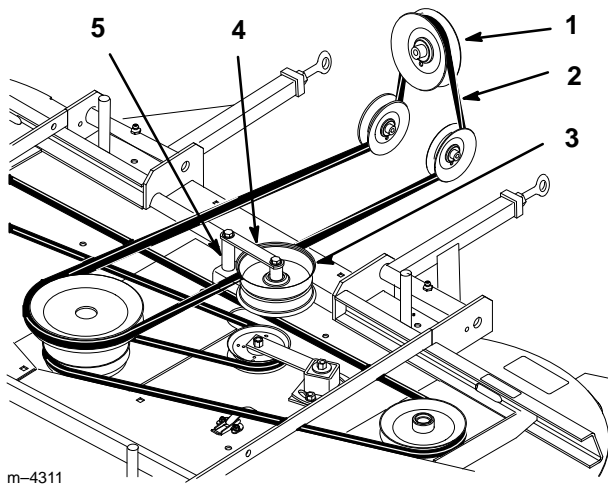

Figure 47
3. Remove PTO drive belt from clutch, around rear idler pulleys and off of mower top center pulley (Fig. 47).
4. Remove bolt, nut, washer and spacer from idler pulley bracket assembly. Remove belt from bracket assembly (Fig. 47).
6. Install belt into idler pulley bracket assembly. Install bolt, nut, washer and spacer into assembly (Fig. 47).